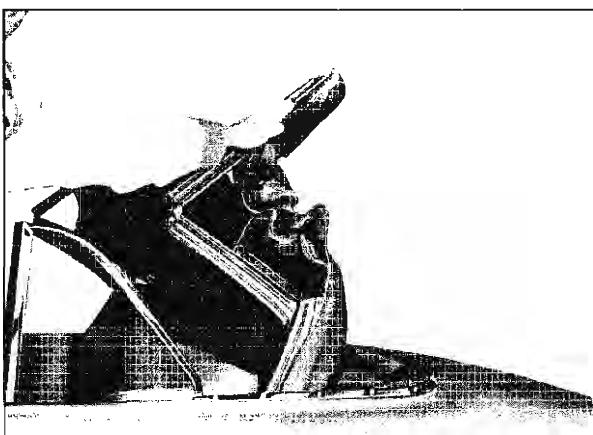

Fig. 21-9 Exerting Downward Pressure
B. As the top approaches mid-point of travel, tension is relieved from the assist springs. Exert downward pressure on the exposed surface of the side rail front section until top is approximately 12 inches from full down position (Fig. 21-9).